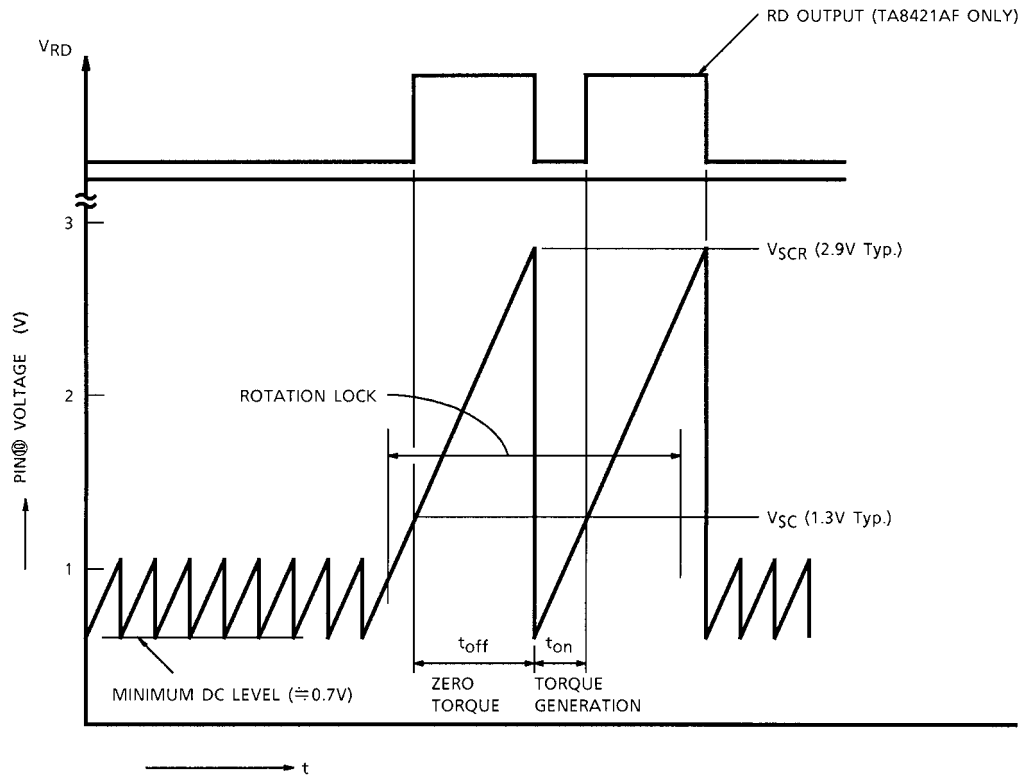

Fig.1 Automatic Self Rotation Recovery Circuit Operation
Fig.1 shows pin (10) voltage and the operation of this functions are as follows.
RD output becomes low (Actually V_{SAT} (RD) level of 0.3 V Typ.) when the Motor in rotation state and generates t_{off} pulse when the rotation is locked (Refer to Fig.1).